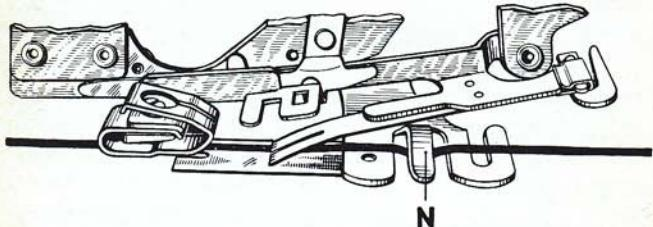

Fig. 52
- 3) Insert material to be ruffled between the two blue blades (LINE 2, Fig. 52).